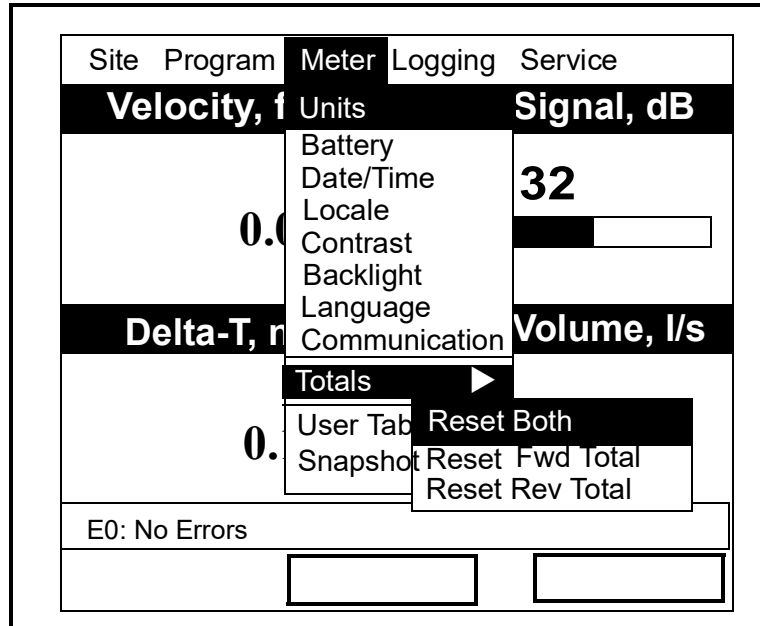

Figure 109: The Resetting Totals Menu
1. From the Meter menu, scroll to the Totals entry and press **[ENTER]**. The window now appears similar to Figure 109 below.